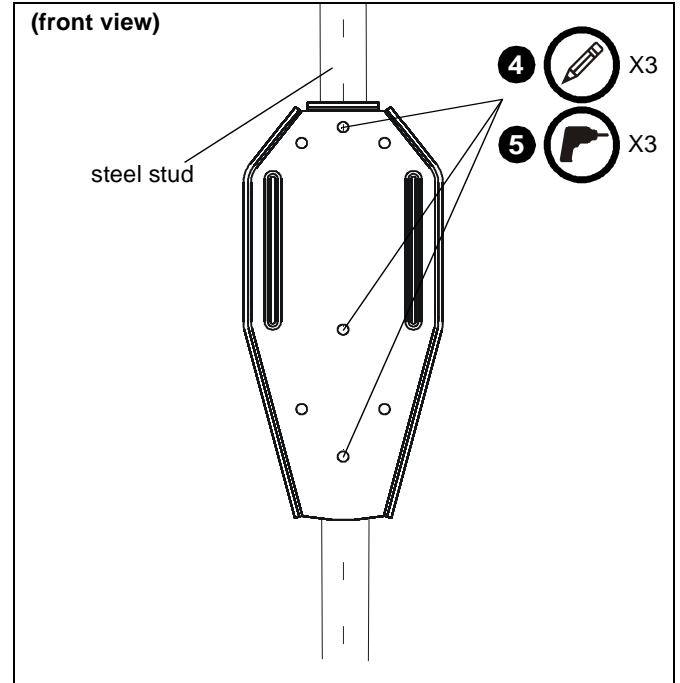

Figure 5
3. Line up inner three holes on mounting bracket with center of stud at desired mounting location. (See Figure 5)
4. Using mounting bracket as a template, mark three holes at the inner three holes in bracket. (See Figure 5)
5. Drill three 1/2" holes at marked locations in wall. (See Figure 5)